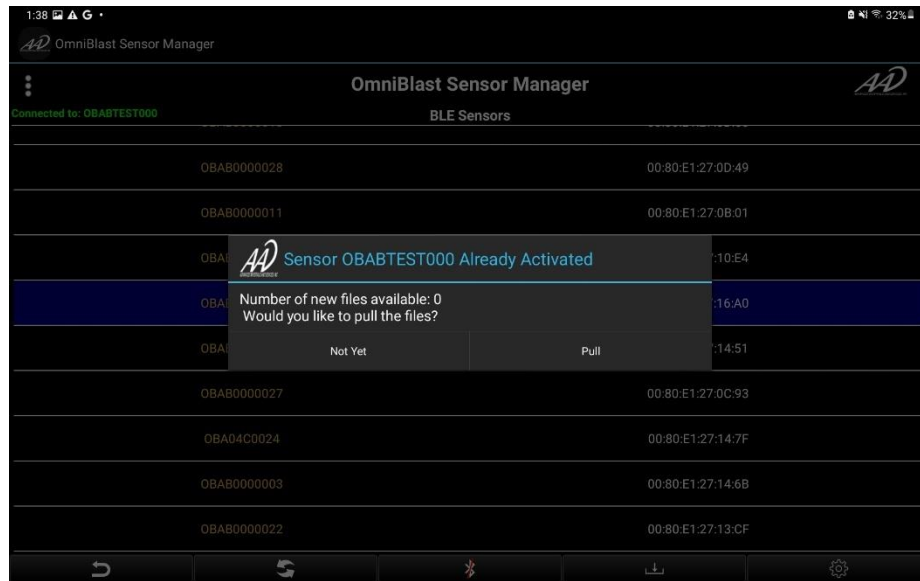
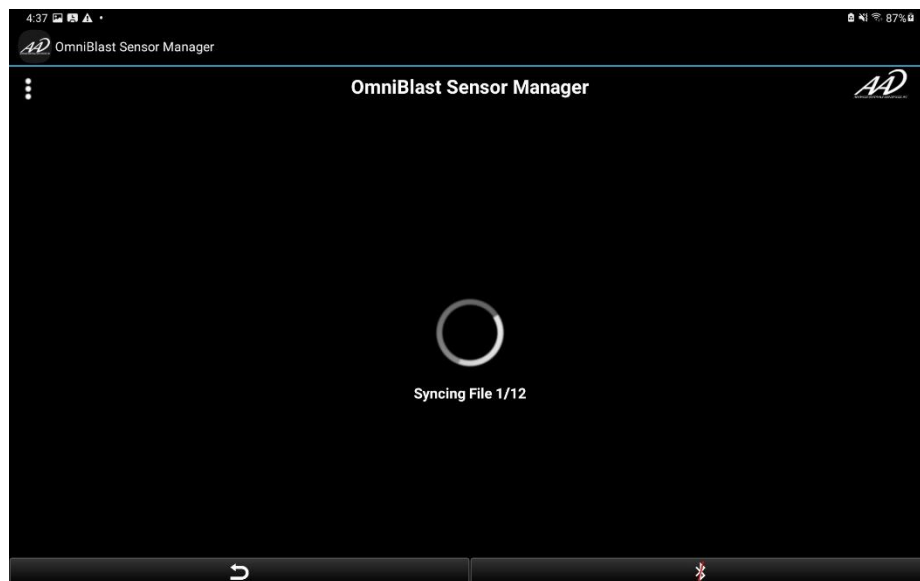

Figure 9. Prompt to pull files after connecting to an OmniBlast™ sensor.
Figure 10. Syncing files with the OSM.
- c. One can connect to a sensor by selecting one. If events are on the sensor, it will ask to pull them (**Figure 9**). One can pull the files now or pull them at any other time by selecting the download button when connected to a sensor (**Figure 9**). After selecting “pull”, the files will begin to sync (**Figure 10**). After all files are synced, the main page will open, and event data can be accessed.
- d. **Time Syncing:** When connecting to a sensor, the time is synced. To only sync the time, disconnect from the device after connection by using the disconnect button (**Figure 9**).